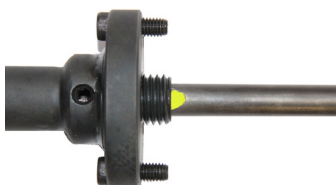

FIGURE 37
2.11.8) Align the pilot drill flat with the Allen-head set screw and insert the pilot drill through the center of the saw mandrel stud (see Figure 37).